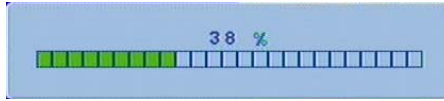

Fig 3.19 Backup Information
STEP4 Click OK button. A window will appear as shown in Fig 3.19 Backup Information.